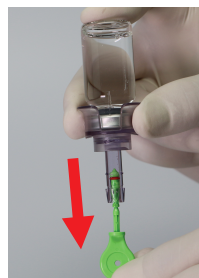

figure 7
- g) Pull down Plunger to draw fluid into Syringe. Remove bubbles as required. Complete filling by aligning red rubber ring with the fill line, as shown in figure 7.